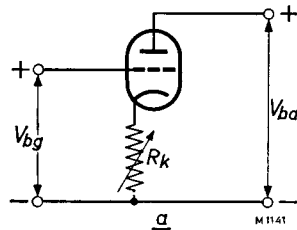

Fig. 38. Recommended d.c. circuit for the EC 56 and EC 57.
3) To obtain good stability, a variable resistor of maximum 2000 ohms is necessary. It should be adjusted so as to obtain the desired anode current. In this way negative direct current feedback is introduced (see fig. 38).